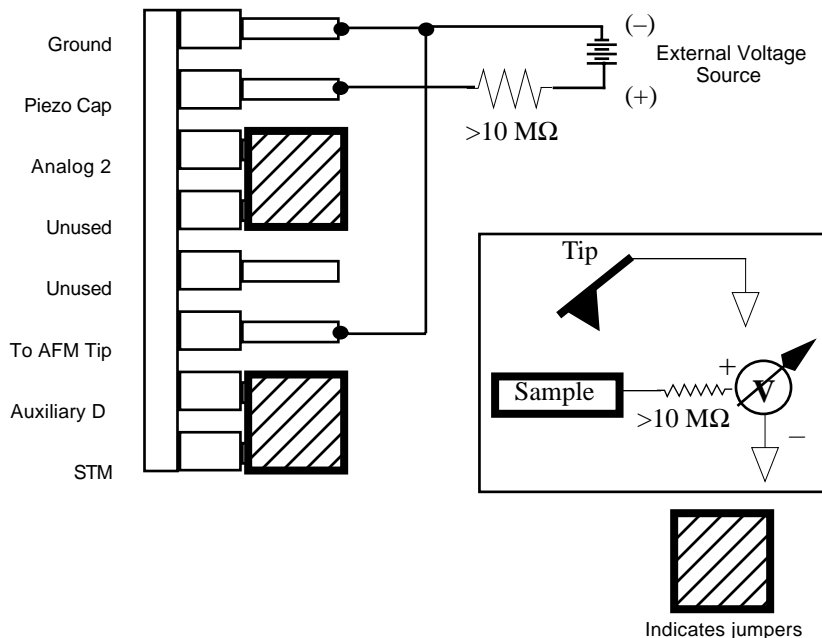

Figure 14.16. Jumper configuration for applying external voltage to sample (for systems *with* the Extender Electronics Module).
1. Locate the two toggle switches on the backside of the Extender Electronics box (Figure 14.16), then verify that they are toggled as shown in Table 14.1.